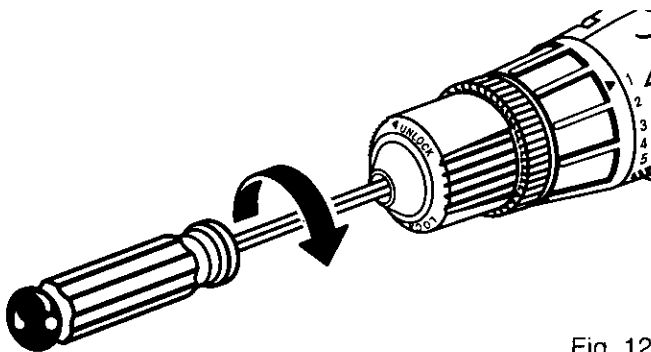

Fig. 12
- Open chuck jaws and remove hex key wrench. Remove the chuck screw by turning it in a clockwise direction. See Figure 12.